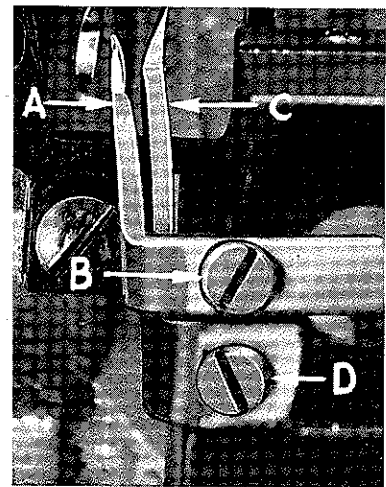

Fig. 5
Assemble front needle guard (C, Fig. 5). When lower looper is springing needle off back guard, set front needle guard as close as possible to needle without touching. Screw (D) is used to adjust and set front needle guard. After this setting, make sure there is no interference between needle guard and main feed dog.